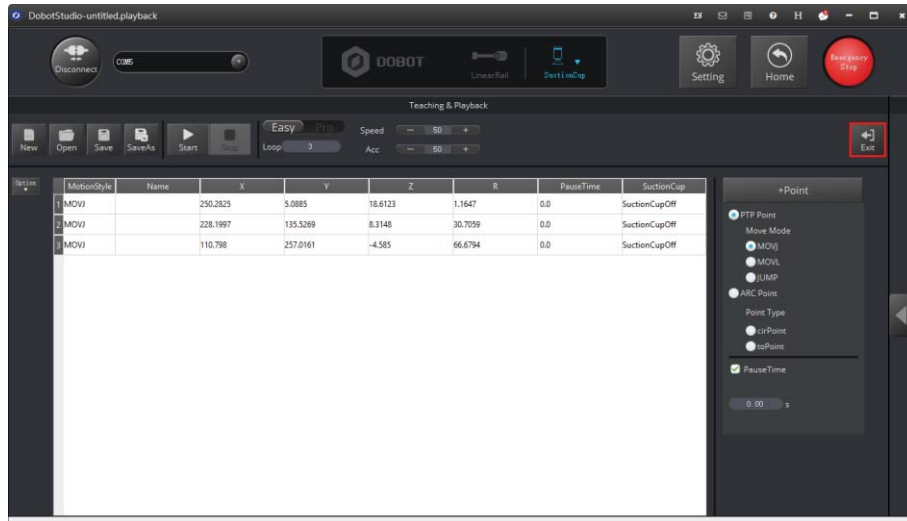

Figure 2.25 Click Exit
7. Click  to exit the **Teaching & Playback** page, as shown in Figure 2.25.